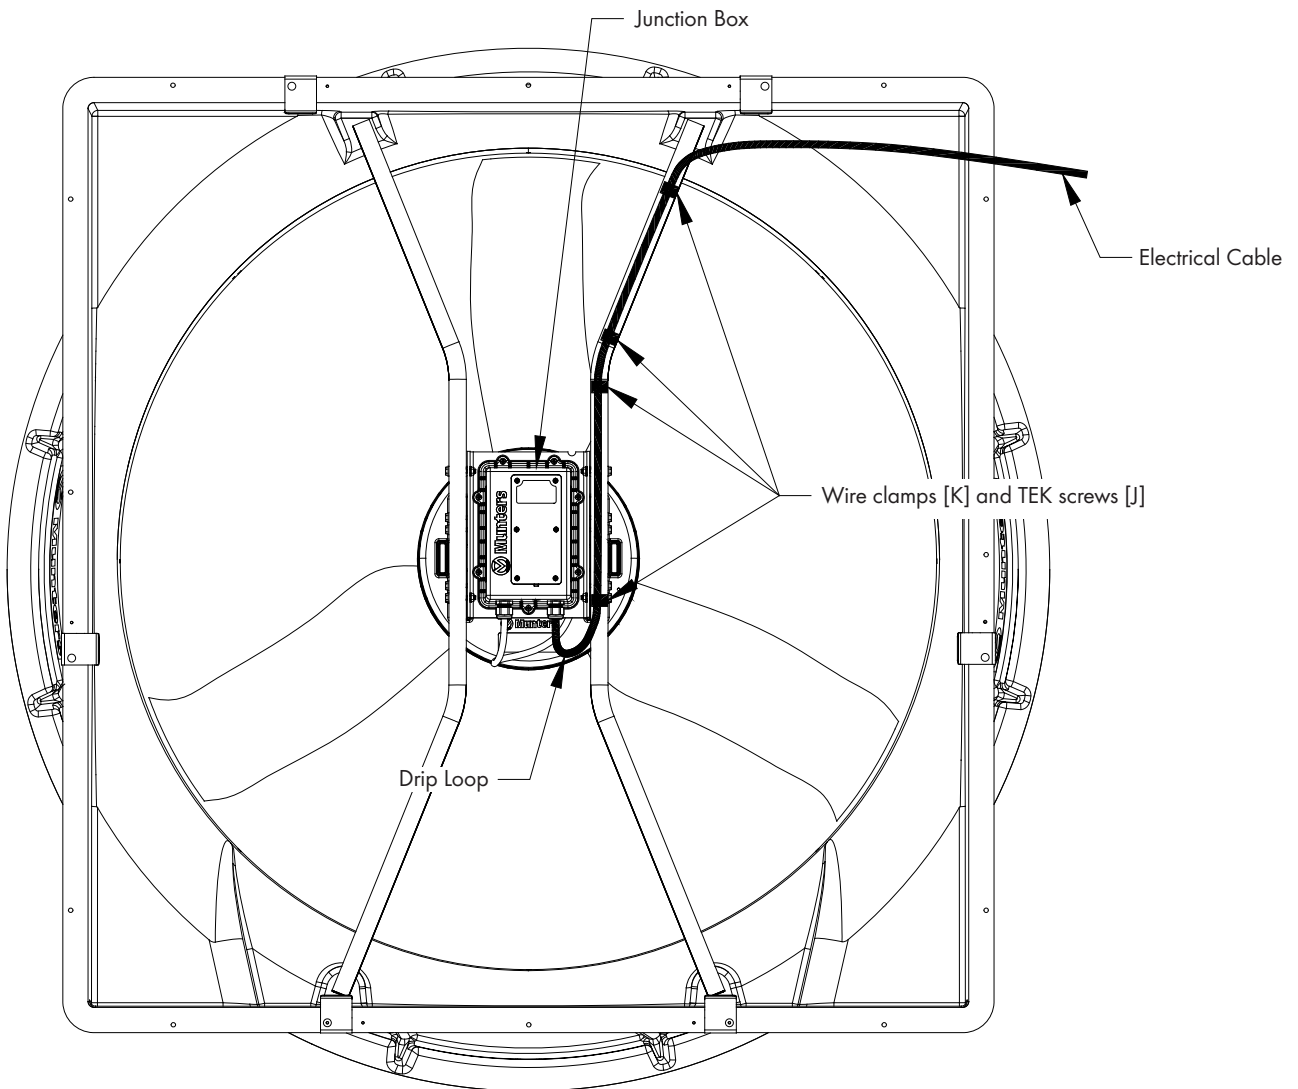

Figure 11A
The Munters Drive Fan comes with a coil of electrical cable that is pre-wired to motor. Find the end of the cable and route it outside the fan and connect it to the incoming power supply and/or the safety cut-off switch. (Safety cut-off switch by others). Create a drip loop in the bottom of the cable and then fasten it to the strut using (4) Wire Clamps [K] and TEK screws [J]. Attach the new cable to the existing power supply for the fan. See Figure 11A and 11B. Continue on next page